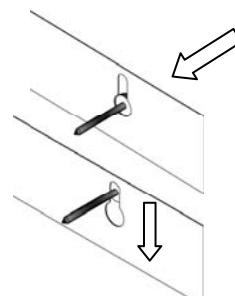

Figure 4
STEP 3: Position the keyholes on the back of the Mantel Shelf over the screws. Pull the Mantel Shelf downward in order to secure it in place, as shown in **Figure 4**.